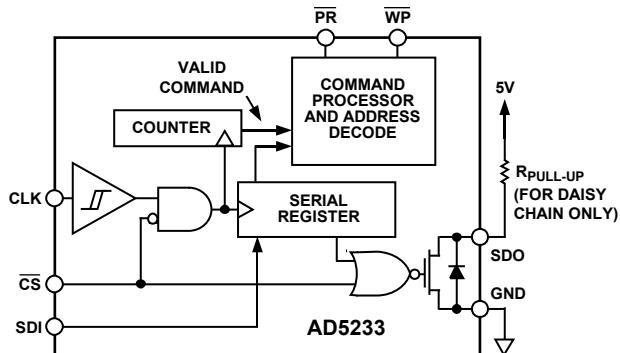
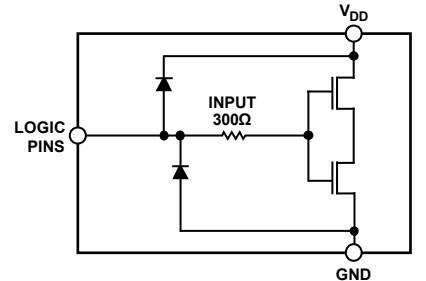
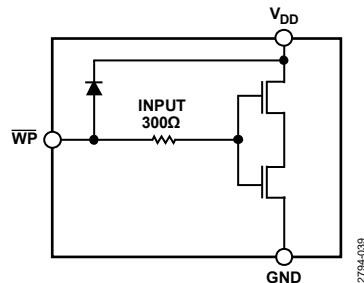

Figure 36. Equivalent Digital Input-Output Logic
Figure 37. Equivalent ESD Digital Input Protection
Figure 38. Equivalent \overline{WP} Input Protection
The equivalent serial data input and output logic is shown in Figure 36. The open-drain output SDO is disabled whenever chip select (CS) is in Logic 1. The SPI interface can be used in two slave modes: CPHA = 1, CPOL = 1 and CPHA = 0, CPOL = 0. CPHA and CPOL refer to the control bits that dictate SPI timing in the following MicroConverters® and microprocessors: ADuC812, ADuC824, M68HC11, and MC68HC16R1/MC68HC916R1. ESD protection of the digital inputs is shown in Figure 37 and Figure 38.